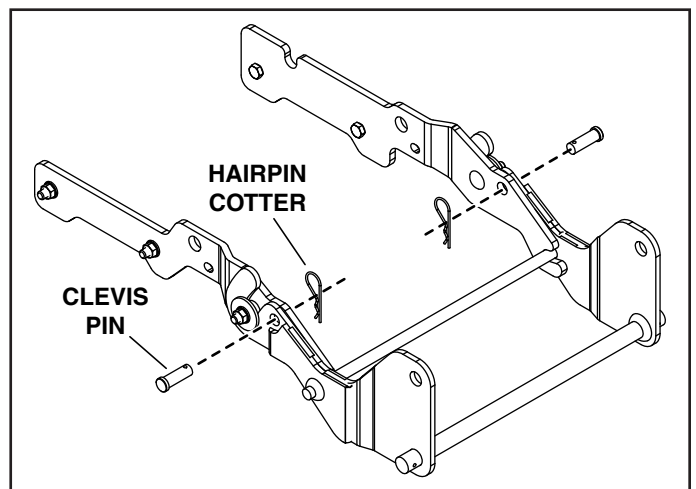

Figure 14.
5. See figure 14. Secure the side plates to the adapter assembly using two clevis pins and two hair pin cotters.